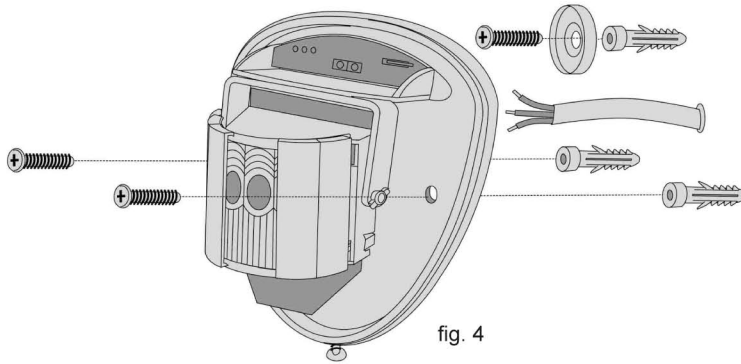
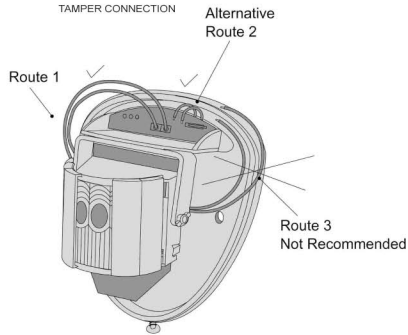

fig. 4
fig. 7
3) Feed standard unshielded twisted four pair alarm cable into the cable entry; bare the wires and connect to the removable terminal block as shown in fig. 7. Screw the unit to the wall ensuring that the tamper pin is correctly located and that the tamper microswitch is closed. **See fig. 4 and 5.** To aid installation, two spare tamper feet are provided. One is 0.04 inches longer and the other is 0.08 inches longer than the tamper foot originally fitted. The tamper foot is a push fit and can be removed by carefully pulling it from the pin. **See fig. 2.**